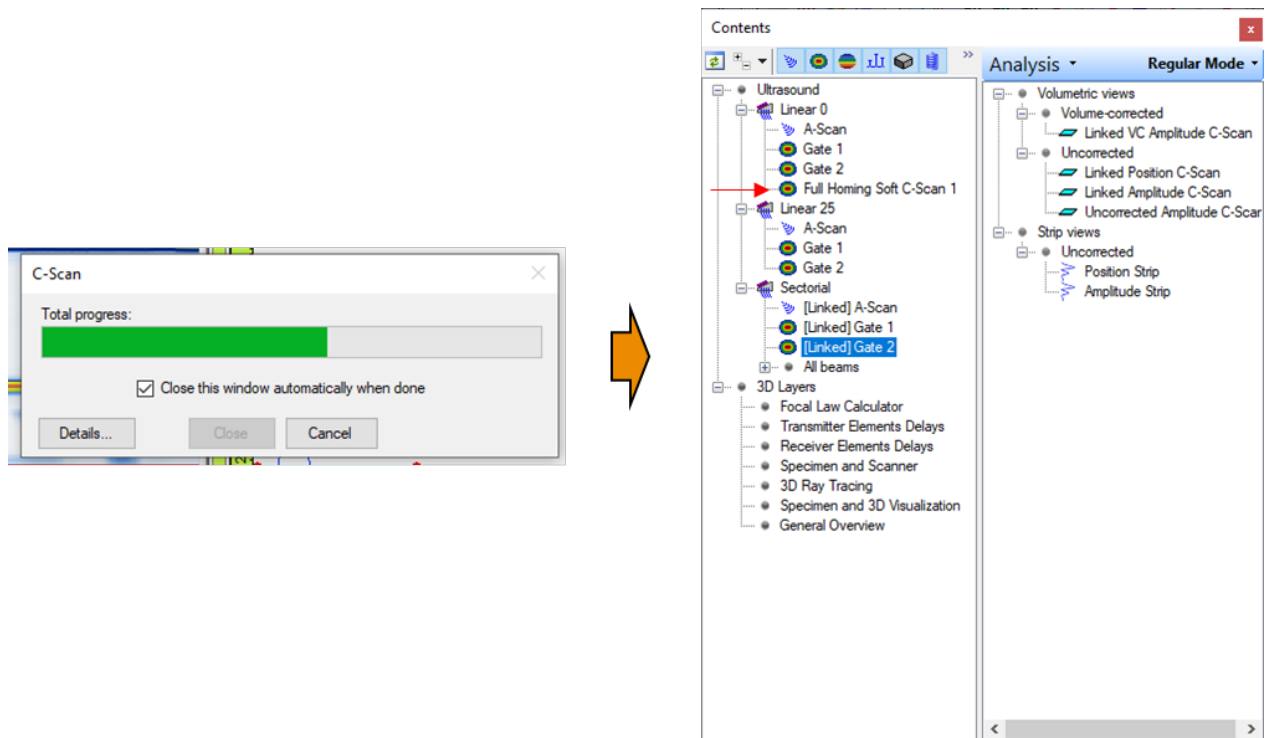

Figure 34: Processing and creation of Full Homing Soft C-Scan
9. Once, the Soft C-Scan is processed, it will appear in the Contents menu (See Figure 34).